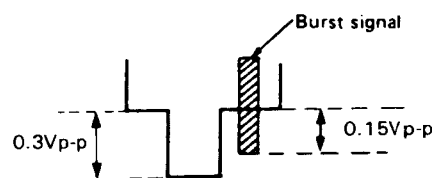

Figure 2-21.
2. Connect an oscilloscope to pin ① of IC1504, and adjust the core belonging to the replaced part so that the burst level of video signal is equal to 1/2 of the horizontal sync level. See Fig. 2-21.
Turn R1570 to the position where the waveform of horizontal sync signal shown in Fig. 2-21 begins to contract.